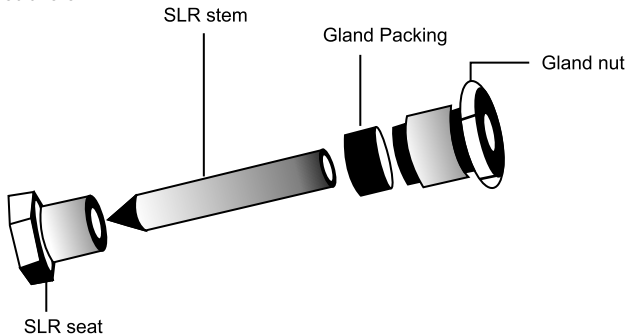

Figure 10: SLR assembly
7.5 Procedure to fit the steam lock release (SLR) assembly : (Refer to Figure 10)
2. Remove the SLR gasket (not shown in the figure 10).